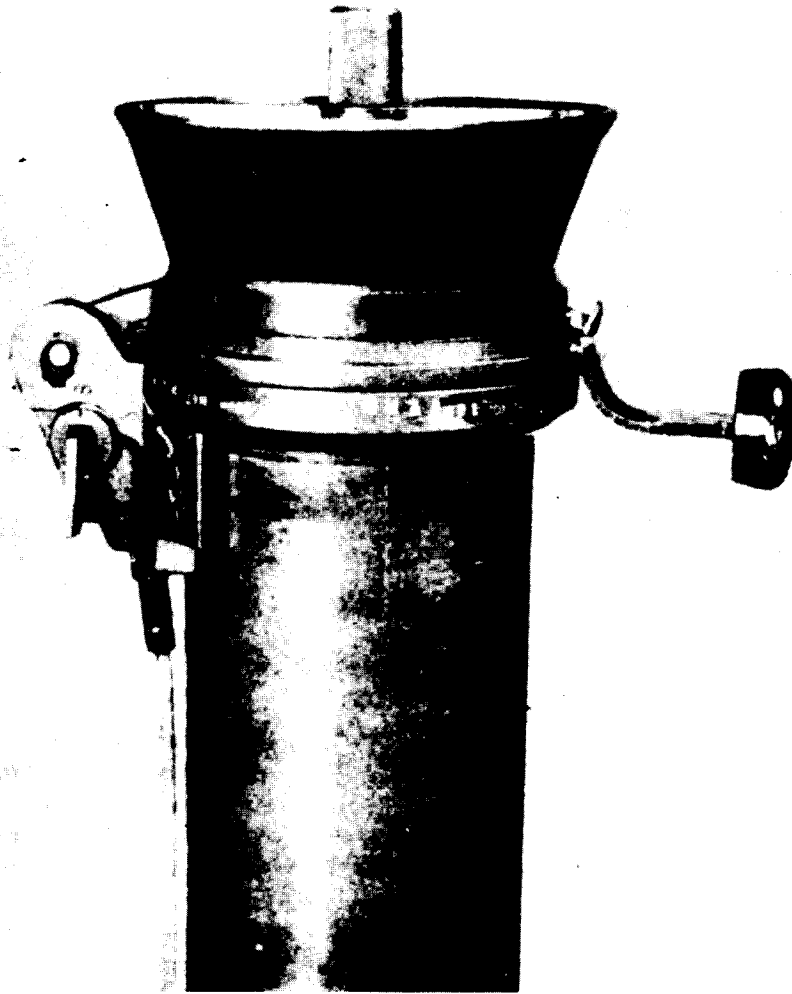

Figure 19. Safety arm in safe position.
b. *Loading 90mm Rifle* (fig. 18). To load the 90mm rifle, the loader inserts a cartridge into the chamber and completely chambers it by sharply pushing the cartridge all the way forward. To close and lock the breech, he grasps the lockring handle with his right hand, moves the breechblock forward until it is seated in the breech, and rotates the lockring counterclockwise until it is fully locked. Upon locking the breech, he inspects the backblast area to see that the area is clear. If the area is clear, he moves the safety arm to the fire position *F* (fig. 19), taps the gunner on the shoulder, and calls UP to indicate to the gunner that the rifle is ready to fire. Figure 19 shows the safety arm in the safe position.